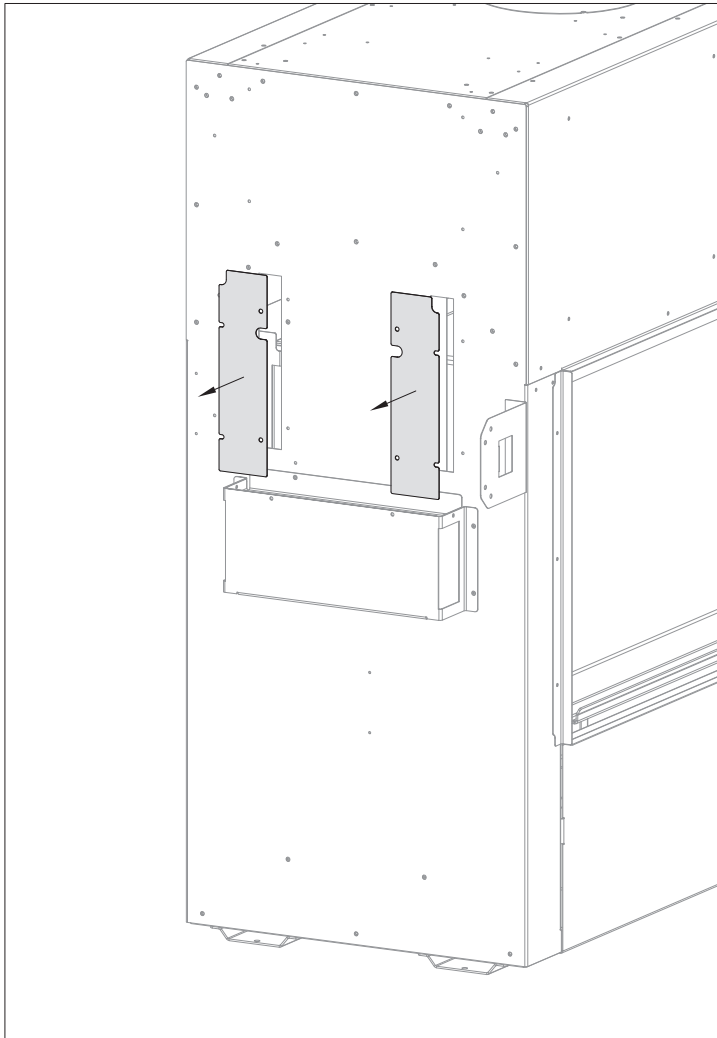

FIGURE 3.13 Heat Transfer Kit Cover Plate Removal
FIGURE 3.13 shows removal of the Heat Transfer Kit cover plates. There are (2) rectangular cover plates located on the side opposite of the exhaust on the outer shell of the appliance. Both cover plates must be removed for either kit. See the #HTK-CWST air chute install instruction sheet for more information.